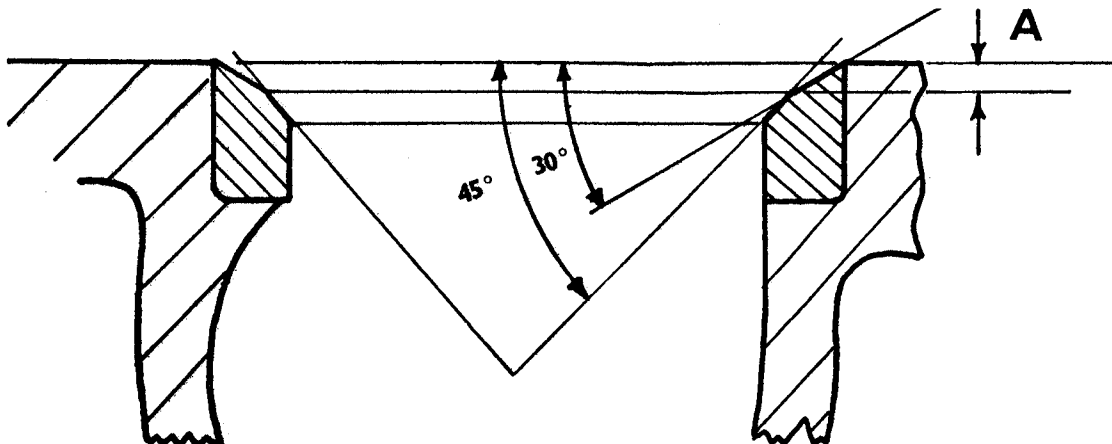

Fig. E.11. Showing Flare to be cut at  $30^\circ$ .
6. Using the valve guide bore as a pilot, machine the "flare" to the dimensions in Fig. E.11.
- (a) Machine to the dimensions given in Fig. E.11 and continue as in stages 7 and 8.